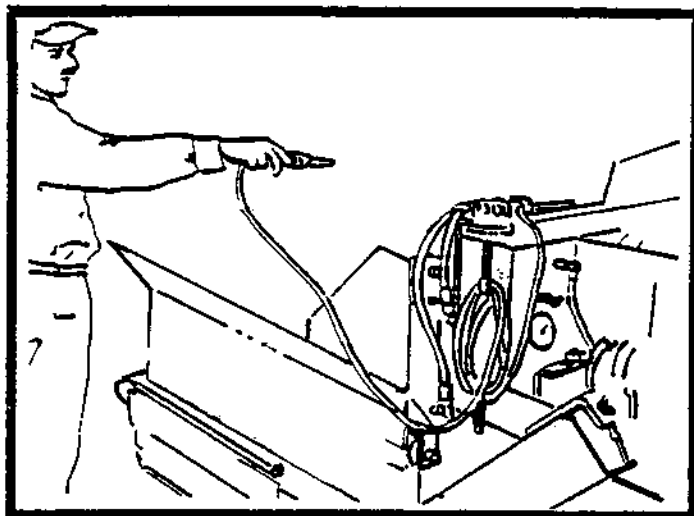

FIGURE 16
1. Raise screed and extend fully on both sides. Lubricate screed inserts with fuel oil and run the extendable screed in and out several times. Make sure end gate depth screw handles are locked after moving extensions to the desired depth. Spray the hopper and augers, with fuel oil as shown in Figure 16 and 17.